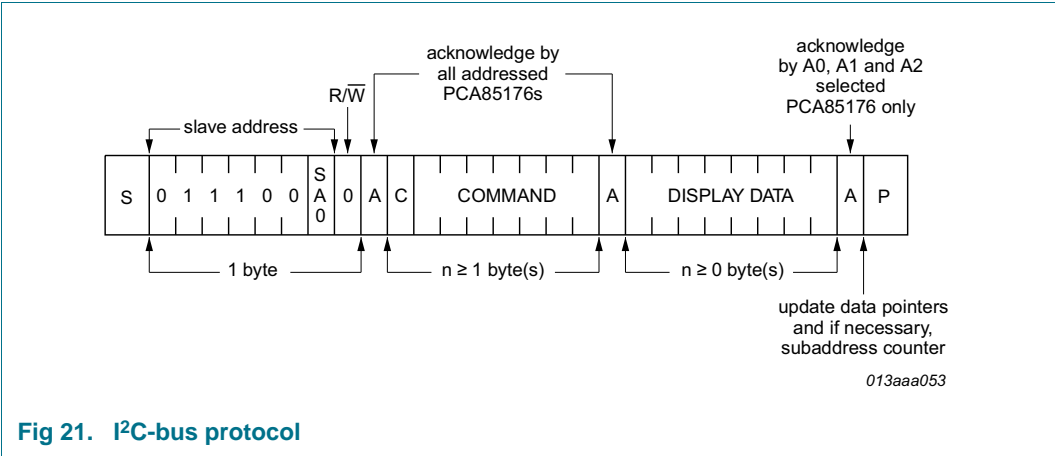

Fig 21. I2C-bus protocol
The I²C-bus protocol is shown in Figure 21. The sequence is initiated with a START condition (S) from the I²C-bus master which is followed by one of the two possible PCA85176 slave addresses available. All PCA85176 whose SA0 inputs correspond to bit 0 of the slave address respond by asserting an acknowledge in parallel. This I²C-bus transfer is ignored by all PCA85176 whose SA0 inputs are set to the alternative level.